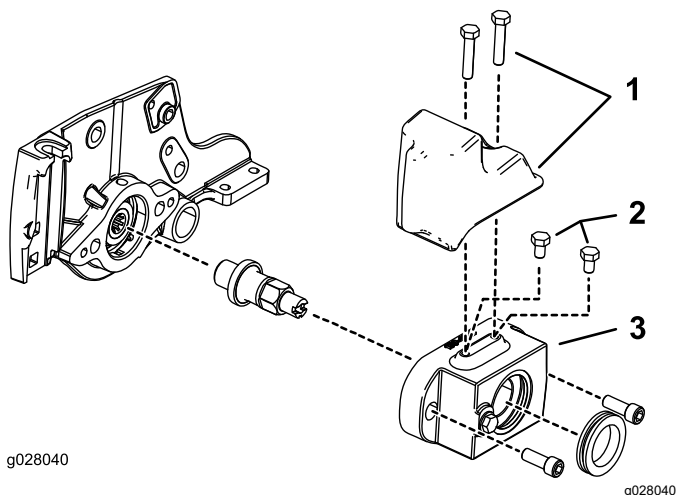

Figure 5
- **For a hydraulic-driven reel motor:** Install 2 bolts (5/16 x 1/2 inch) on the top of the roller brush housing as shown in Figure 5 (hydraulic 5-inch reel motors only).
- **For an electric-driven reel motor:** Order and install 1 weight (Part No. 127-4259-03) and 2 bolts (Part No. 322-7) as shown in Figure 5.